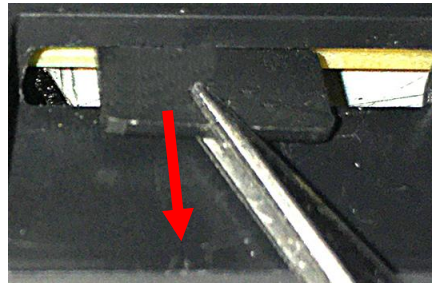

Figure 9
9. If necessary, use tweezers to remove the Micro SD card (see Figure 9) from the old controller.